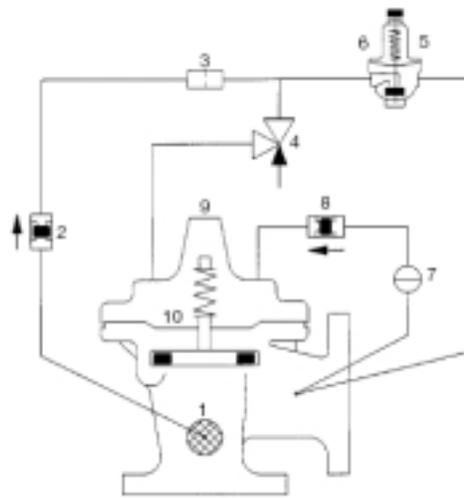

Figure 2
- 1.2 Tests and Remedies (see Figure 2 for item numbers)
- 2.2 Tests and Remedies (see Figure 2 for item numbers)
- 3.2 Remedies (see Figure 2 for item numbers)
- 4.2 Remedies (see Figure 2 for item numbers)
- 5.2 Remedies (see Figure 2 for item numbers)
- 6.2 Remedies (see Figure 2 for item numbers)